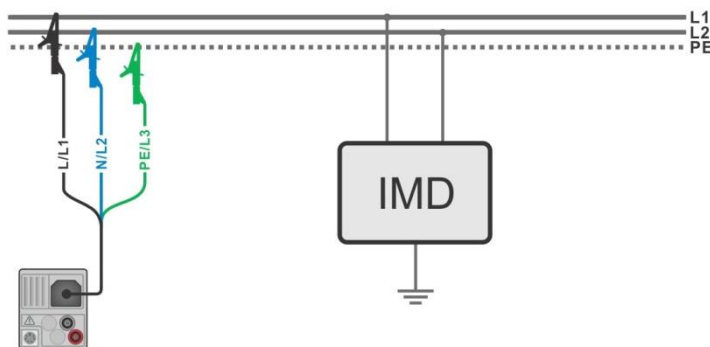
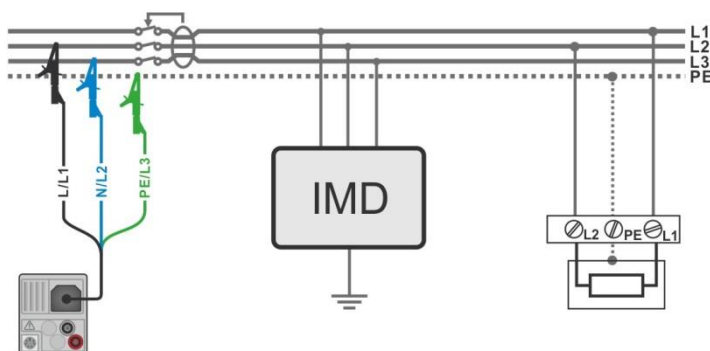

Figure 7.81: Measurement of highest First fault leakage current with 3-wire test lead
Figure 7.82: Measurement of First fault leakage current for RCD protected circuit with 3-wire test lead
- › Connect test leads to the object under test, see **Figure 7.81** and **Figure 7.82**.